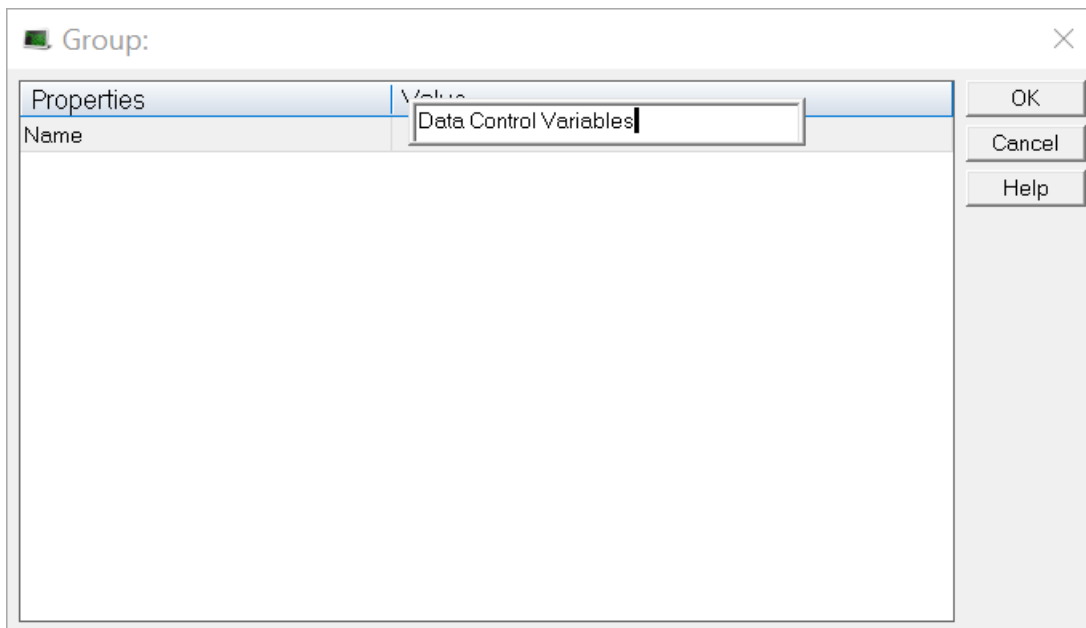

Figure 2-10: Name - Value text box
4. Enter the name for the new group. (Figure 2-10)